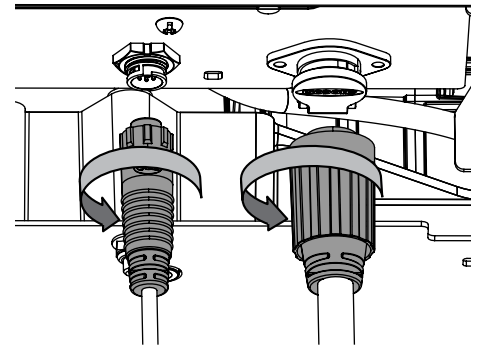

Figure 4-4
4. Disconnect the deck motor(s) from the adapters on the underside of the rider. Rotate the connectors ¼-turn counterclockwise and pull down. See Figure 4-4.